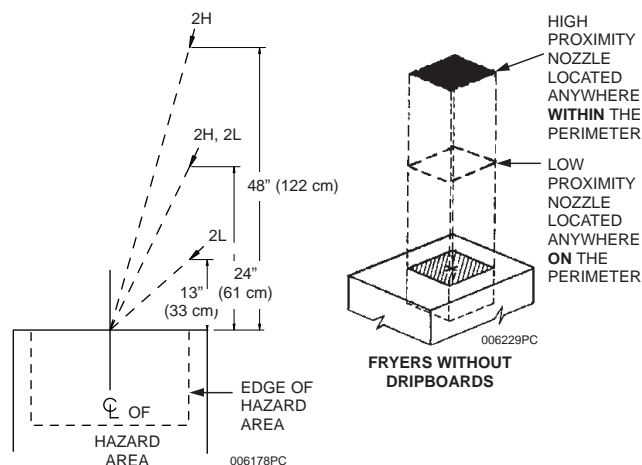

Figure 3-3a
The Model 2H nozzle, Part No. 551028, is used for high proximity fryer protection. This nozzle is a two (2) flow nozzle. The nozzle must be located **anywhere within the perimeter** of the hazard area, 24 in. to 48 in. (61 to 122 cm) above the cooking surface of the appliance and aimed at the center of the cooking area. See **Figure 3-3a**.
The Model 2L nozzle is used for low proximity fryer protection. This nozzle is a two (2) flow nozzle. The nozzle must be located **anywhere on the perimeter** of the hazard area, 13 in. to 24 in. (33 to 61 cm) above the cooking surface of the appliance and aimed at the center of the cooking area. See **Figure 3-3a**.